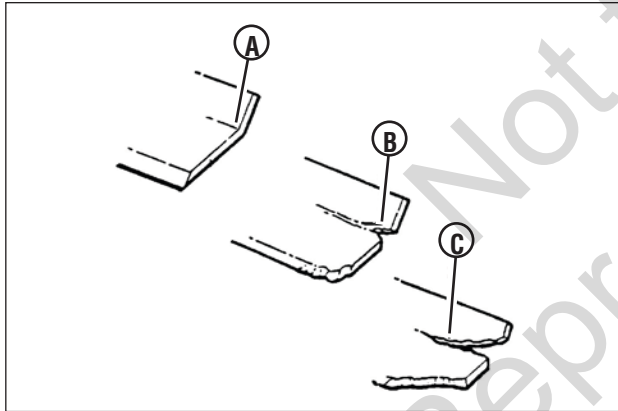

Figure 17: Standard blade wear limits
1. Inspect the blade (Figure 17) frequently for signs of excessive wear or damage:
- (A) New blade
- (B) Wear limit (notch starts)
- (C) Dangerous condition! Do not use on the mower! Replace with a new blade.